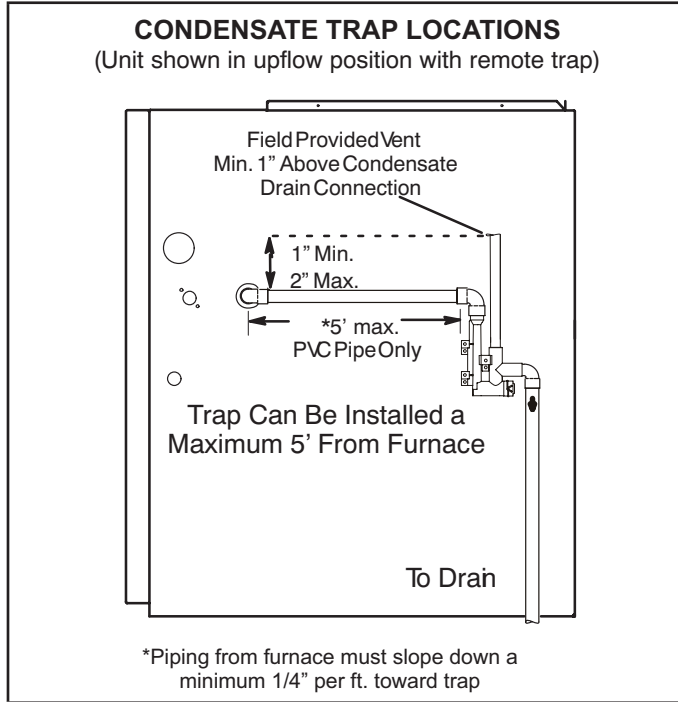

**Figure 46**
**NOTE** - Appropriately sized tubing and barbed fitting may be used for condensate drain. Attach to the drain on the trap using a hose clamp. See Figure 46.